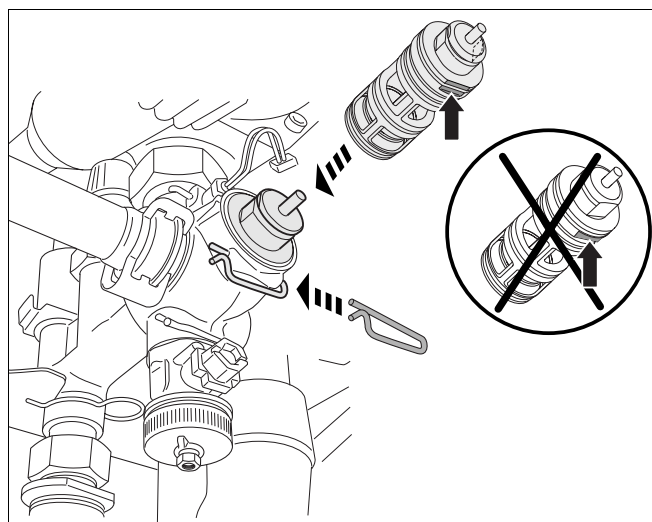

fig. 104 Internal mechanism of three-way valve
- Install the new internal mechanism in reverse order. Making sure that the flat side is facing down (→ fig. 104).